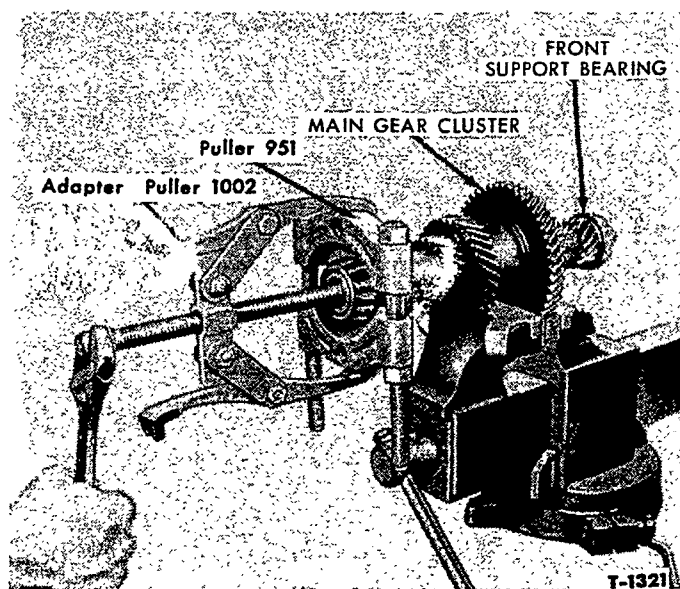

Figure 20—Removing Main Cluster Gear Bearings
1. Remove the front and rear bearings with Pullers 951 and 1007 as shown in Figure 20.